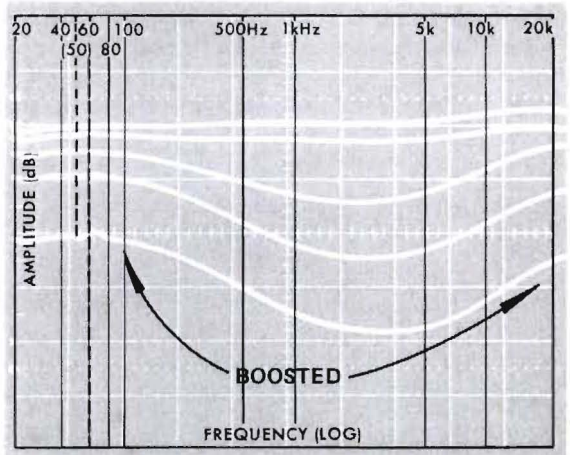

Figure 16 Loudness Control Effects
1. The effects produced by varying the loudness contour control can be observed (Figure 16) by sweeping the flat response each time the loudness control is increased by 1/8 turn.